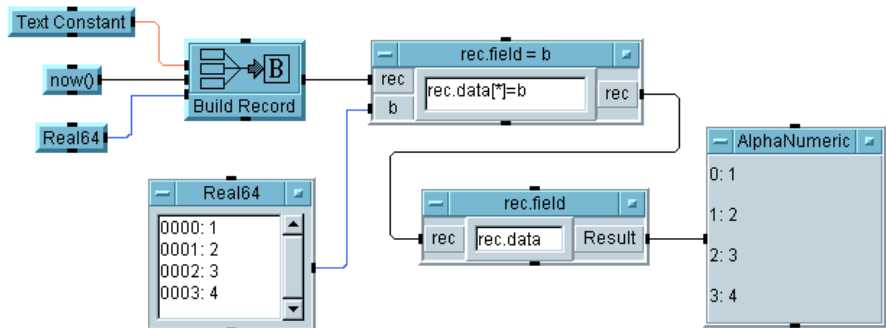

Figure 141 Using the Set Field Object
- 6 Run the program and save it as **setfield.vee**. The program should look like Figure 141.